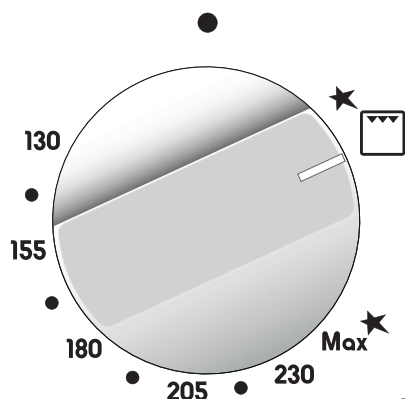

Fig. 4.3
- 2 – Lightly press and turn the thermostat knob clockwise to the position  (fig. 4.3), Press the knob firmly until the burner lights.